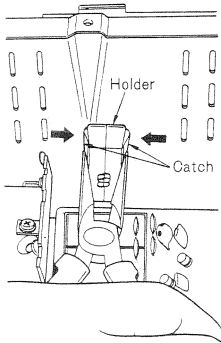

Fig. 13
3. Push the catches in the direction of arrows, as shown in fig. 13 and remove the holder.